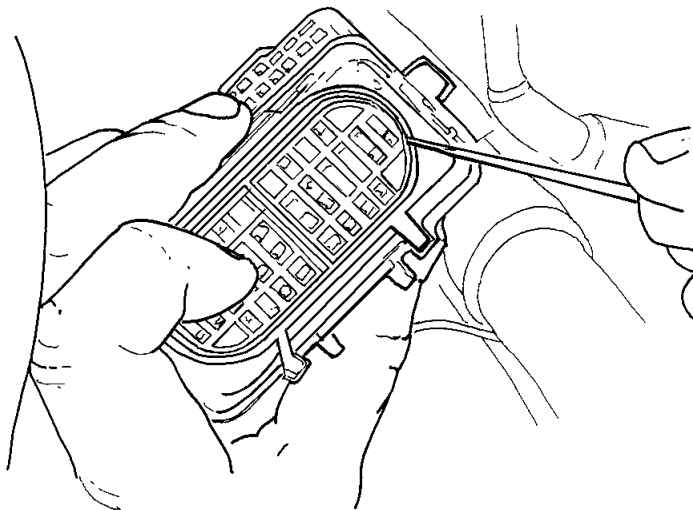

Figure 5 Remove Green Seal
7. Remove the green rubber seal from the slot being careful not to damage the 40 pin connector (Figure 5). Seal can be removed carefully with needle nosed pliers, or pushed out from the other side with a slender blunt object.